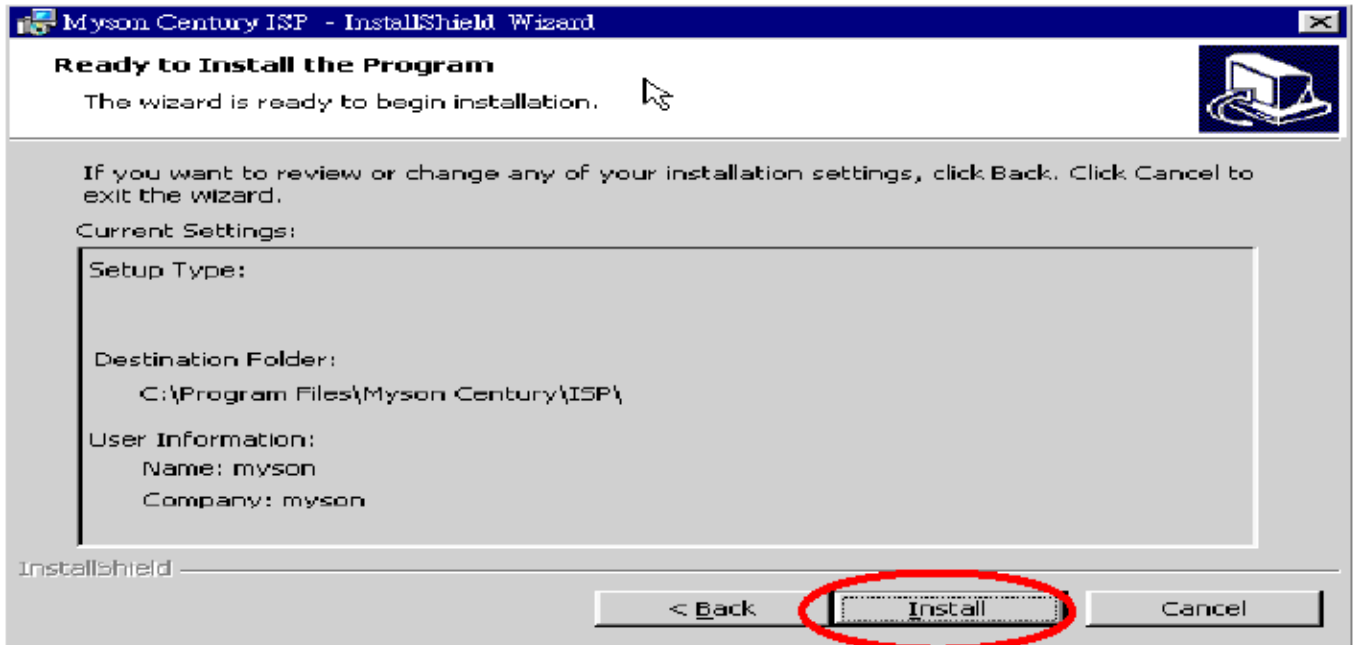

Fig 2.5
2.5 Press “Install” button to continue, see Fig 2.5